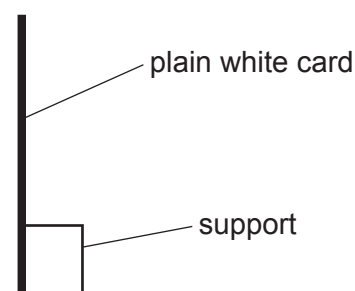

Fig. 3.2
- (iv) Plain white screen. A white sheet of stiff card approximately 150 mm × 150 mm, fixed to a wooden support, is suitable. See Fig. 3.2.